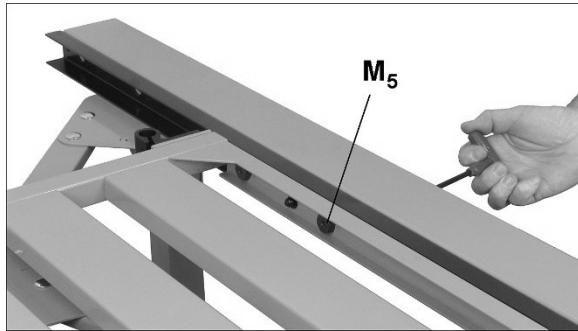

Figure 7-17
11. Slide table forward and use the provided T-handle wrench through the holes in inner rail to loosen bearing screw. See Figure 7-17. Turn eccentric nut (M_5) until bearing is just contacting ceiling of rail channel. Do not adjust bearing too tightly to rail. Tighten bearing screw.